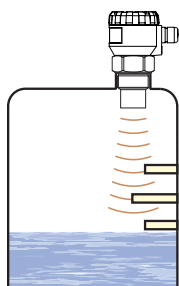

Fig. 5: False echo from obstacles in the tank
- If the emitted acoustic signal of the level meter is affected by near objects (roughness on walls of the tank, various partitions, mixers etc.), it is necessary to map false reflections by activating the mode "TEACHING". In case of installed mixers, it is necessary to put the mixers to position under the level meter (direct the mixer paddle to the ultrasonic signal beam) (Fig. 5 and 6).